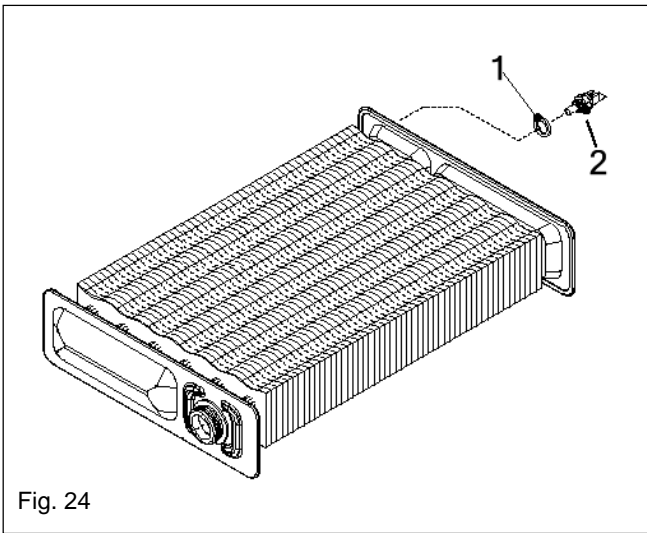

Fig. 24
6.10 PRIMARY THERMISTOR (see fig. 24)